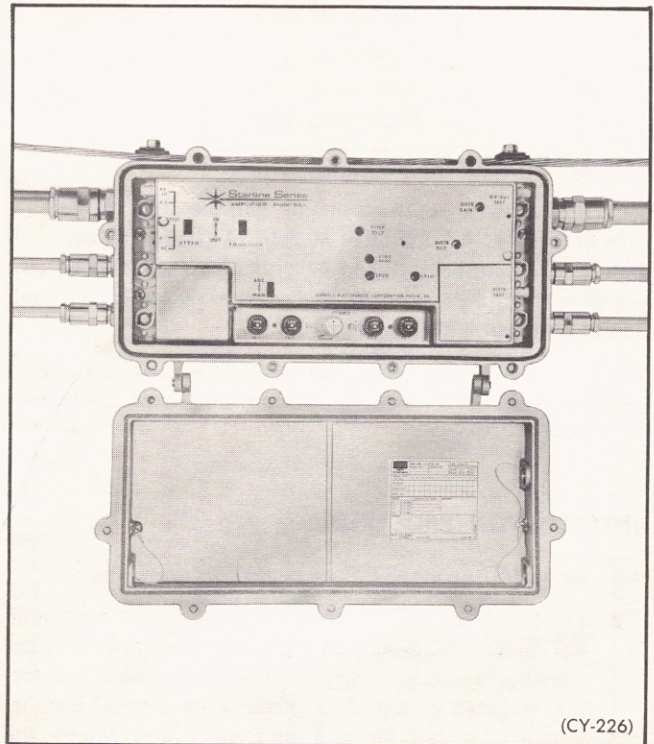

Fig. 2 Model SA-\* Open Housing showing Terminal Assemblies
4.4 Make sure the hex head machine screws and crown washers in the terminal assemblies are loosened so that cable center conductors will not be bent when feeding cable ends into the assemblies (see Fig. 2).